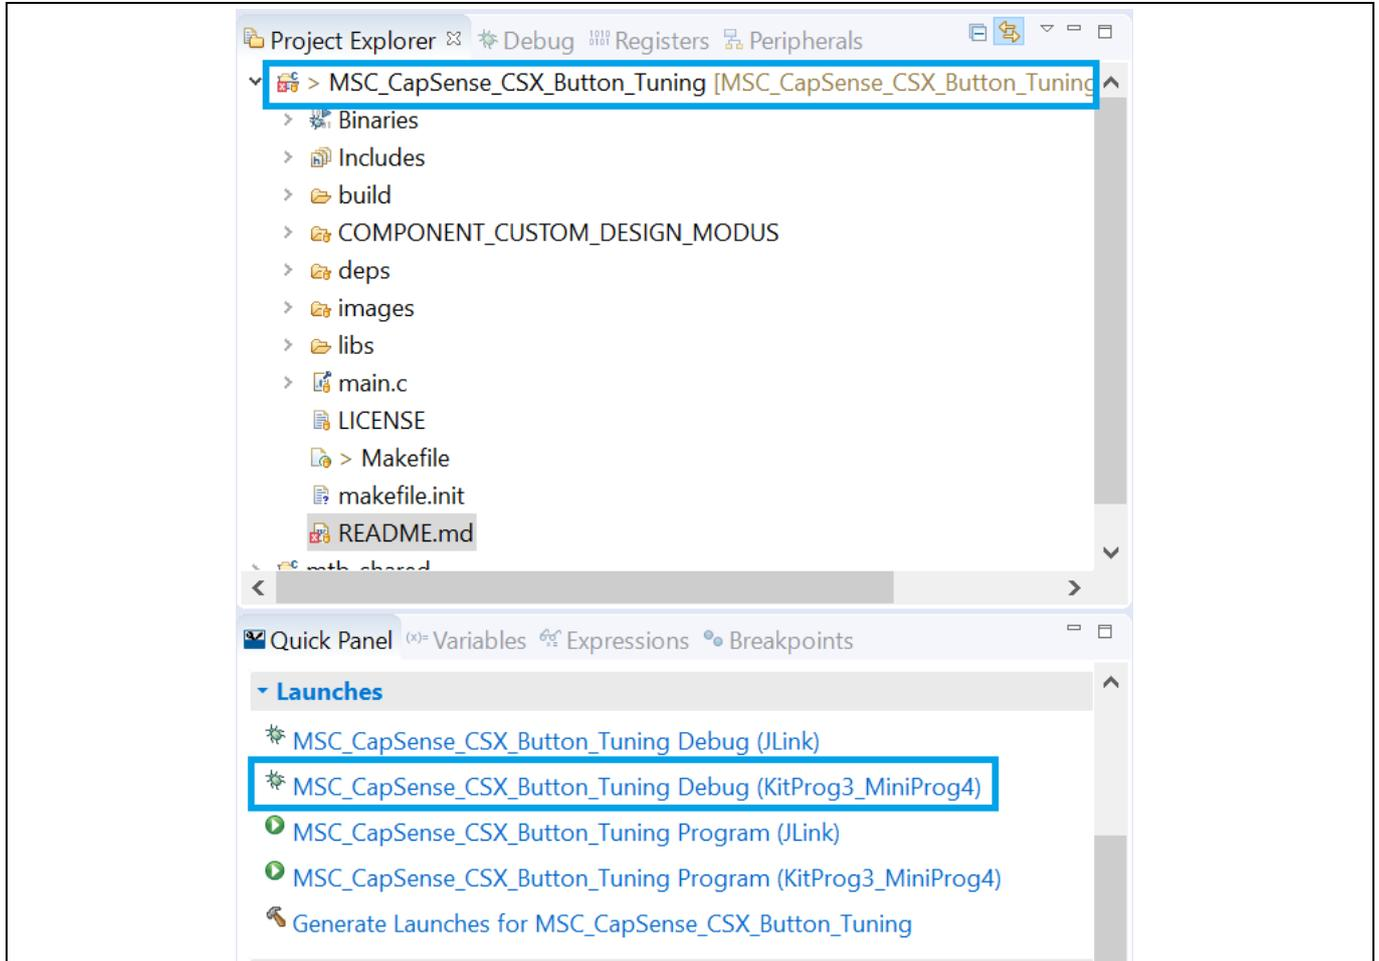

Figure 12 Debug the code example
4. ModusToolbox™ has an integrated debugger. To debug a PSoC™ 4100S Max MCU application, in the Project Explorer, select <App_Name> project. In the Quick Panel, scroll to the Launches section and click the <App_Name> Debug (KitProg3_MiniProg4) configuration as shown in **Figure 12**. For a detailed explanation on how to debug using ModusToolbox™, see **KBA224621**.